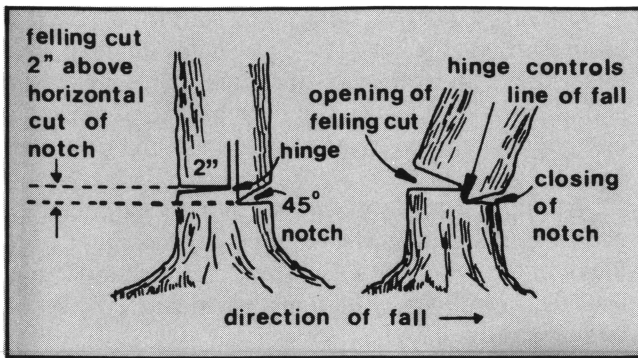

Figure 4. Tree fall direction can be closely controlled with properly made notching and felling cuts.
5. Make felling or back cut on the opposite side of the trunk 2 inches above and parallel to horizontal notch. Leave wood fibers to act as a hinge to keep tree from twisting and falling in the wrong direction or kicking back on stump. See Figure 4.